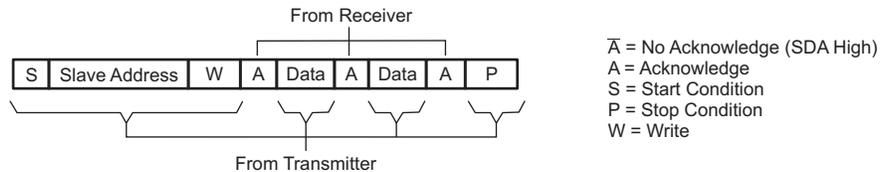
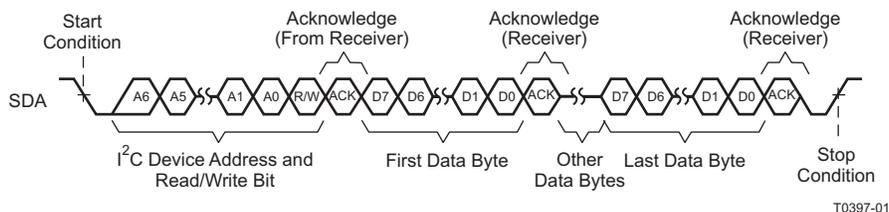
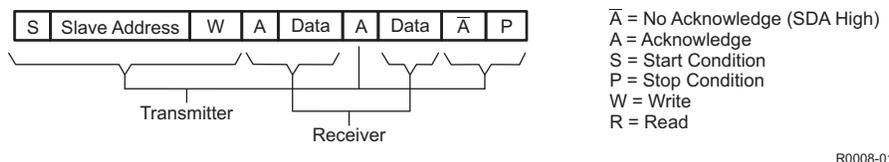
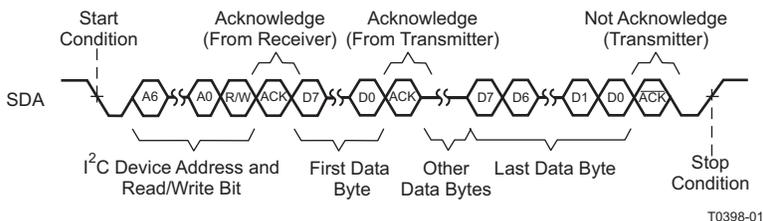

Figure 40. I2C Write Cycle
Figure 41. Multiple-Byte Write Transfer
Figure 42. I²C Read Cycle
Figure 43. Multiple-Byte Read Transfer
- The master generates further SCL cycles to either *transmit* data to the slave (R/W bit 0) or *receive* data from the slave (R/W bit 1). In either case, the *receiver* must acknowledge the data sent by the *transmitter*. So an acknowledge signal can be generated either by the master or by the slave, depending on which one is the receiver. The 9-bit valid data sequences consisting of 8-bit data and 1-bit acknowledge can continue as long as necessary (See Figure 40 through Figure 43).
During a write cycle, the transmitting device must not drive the SDA signal line during the acknowledge cycle so that the receiving device may drive the SDA signal low. After each byte transfer following the address byte, the receiving device pulls the SDA line low for one SCL clock cycle. A stop condition is initiated by the transmitting device after the last byte is transferred. An example of a write cycle can be found in Figure 40 and Figure 41. Note that the TMDS361 allows multiple write transfers to occur. See the Example – Writing to the TMDS361 section for more information.
During a read cycle, the slave receiver acknowledges the initial address byte if it decodes the address as its address. Following this initial acknowledge by the slave, the master device becomes a receiver and acknowledges data bytes sent by the slave. When the master has received all of the requested data bytes from the slave, the not-acknowledge ( $\bar{A}$ ) condition is initiated by the master by keeping the SDA signal high just before it asserts the stop (P) condition. This sequence terminates a read cycle as shown in Figure 42 and Figure 43. See the Example – Reading from the TMDS361 section for more information.